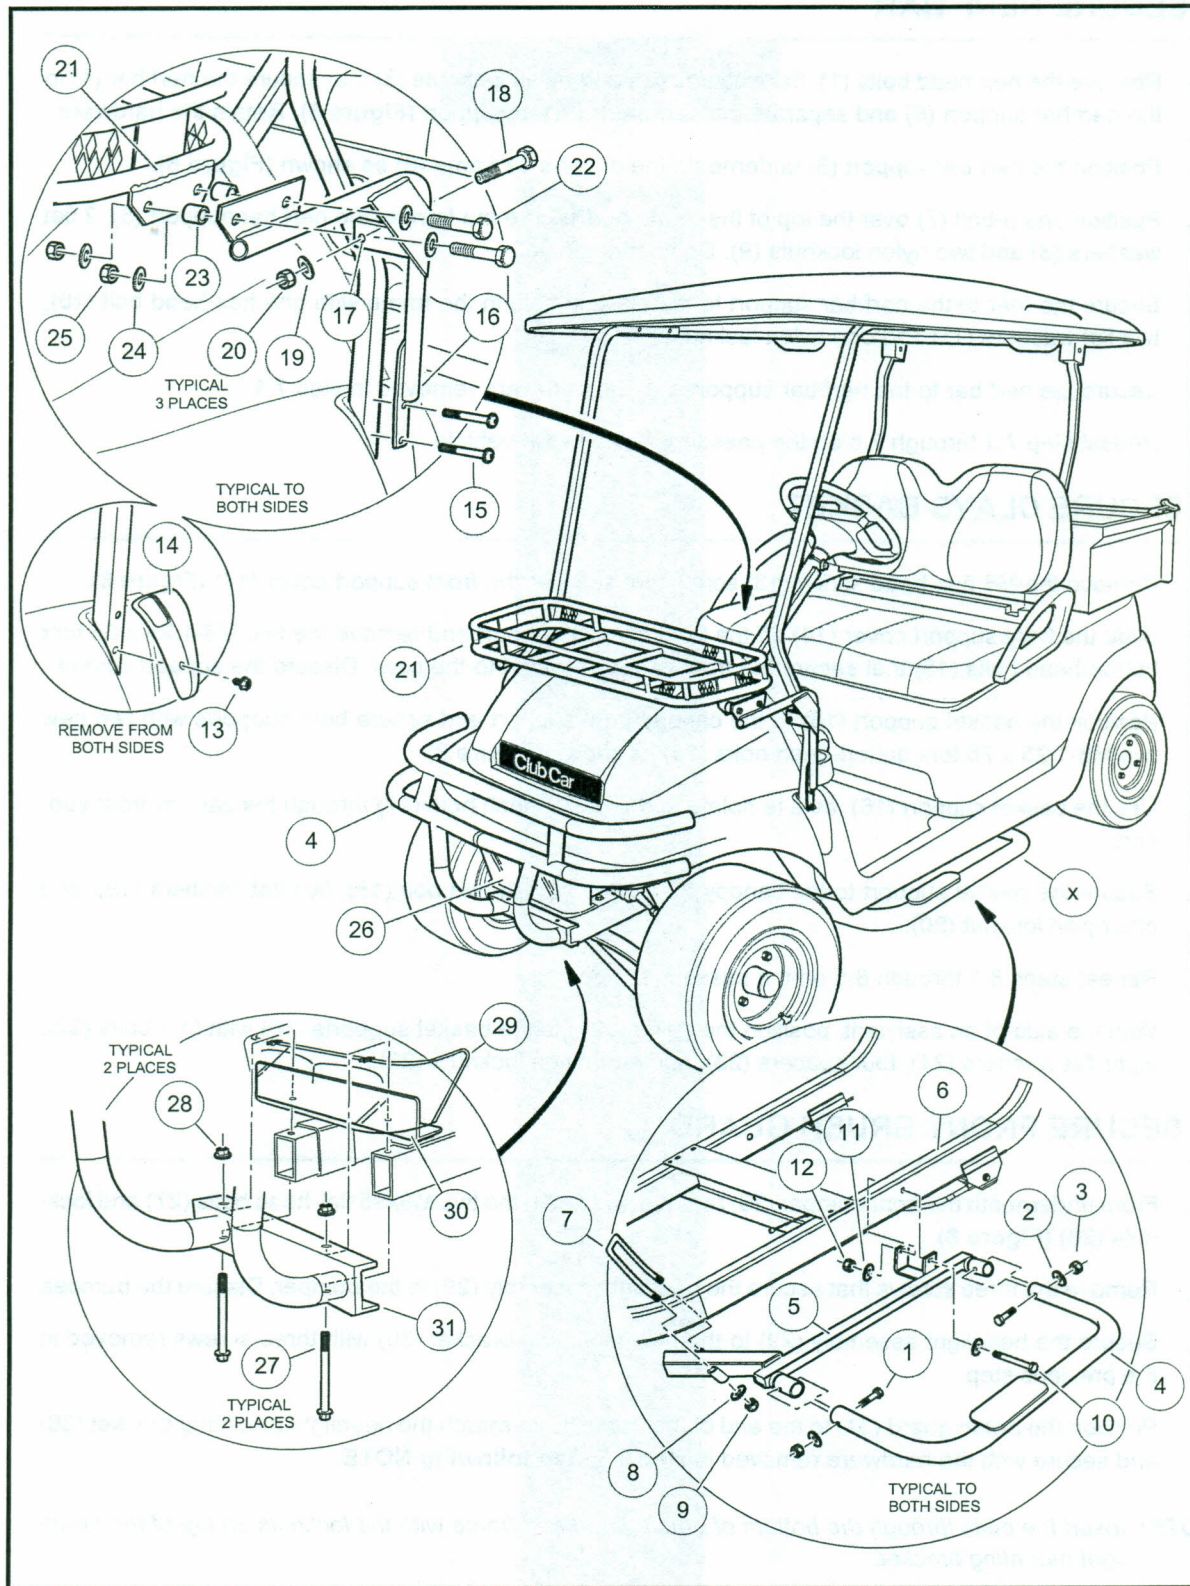

Figure 8 Secure Accessories
- 7.1. Remove the hex-head bolts (1), flat washers (2), and nylon locknuts (3) that secure the nerf bar (4) to the nerf bar support (5) and separate the nerf bar from the support (**Figure 8**). Retain the hardware.
- 7.2. Position the nerf bar support (5) underneath the driver-side frame (6) as shown (**Figure 8**).
- 8.1. Remove the M6 hex-head screw (13) screw that secures the front support cover (14) (**Figure 8**).
- 8.3. Position the basket support (16) to the canopy front support and secure both supports with two new two M8-1.25 x 75 torx button-head bolts (15) as shown (**Figure 8**).
- 9.1. From underneath the front bumper (26) remove and retain the two M8x95 flat-head bolts (27) and locknuts (28) (**Figure 8**).